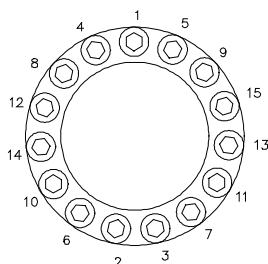

Figure 37
- Check rotor mesh clearance against Clearance Chart - refer to section 8.1. To adjust the mesh clearance rotate shafts (5.01 and 5.02). Having achieved optimum mesh clearance, retainer (5.16) can be tightened to correct torque, refer to section 8.2, taking note of typical tightening sequence, see Figure 37.